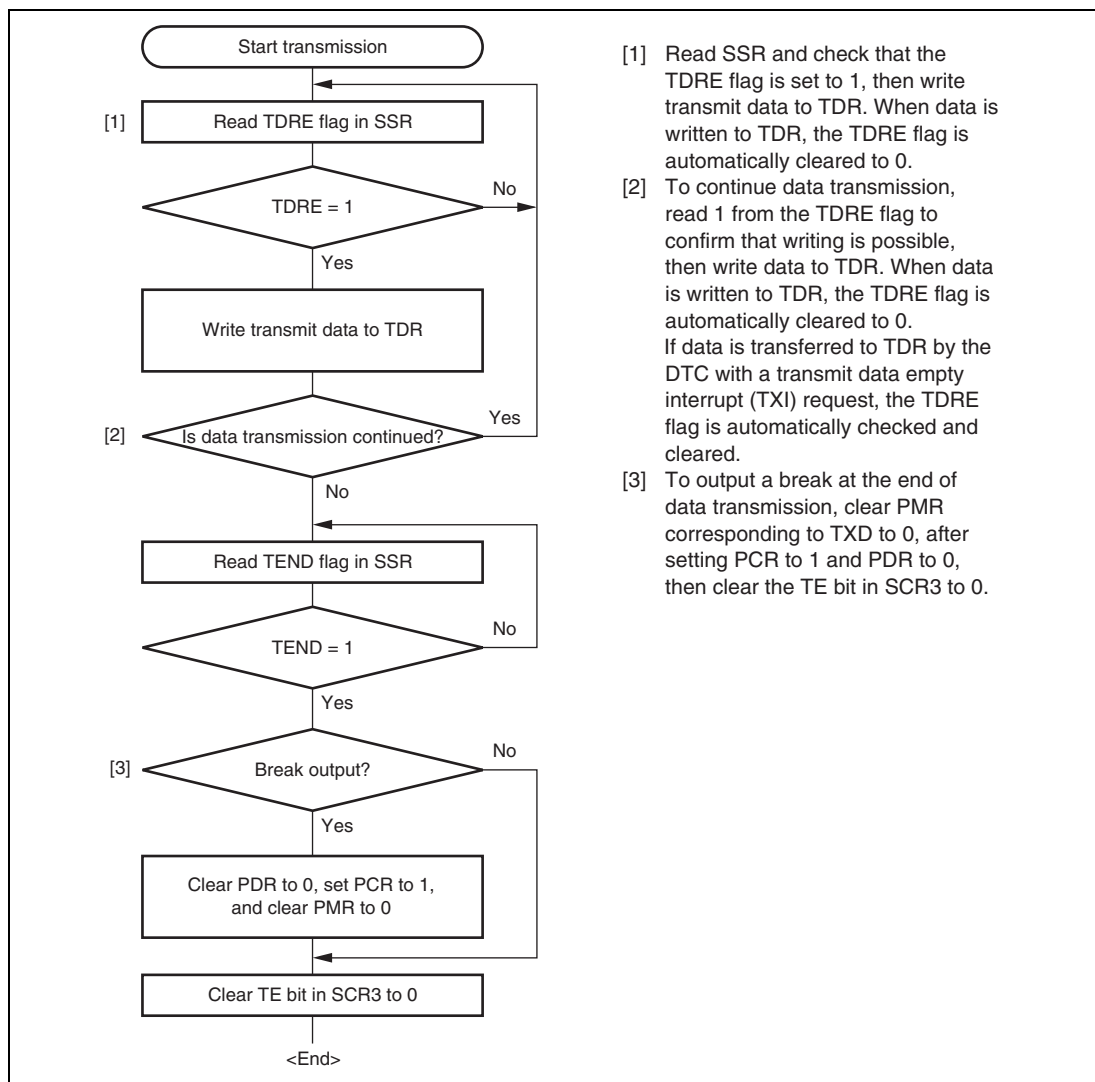

Figure 21.8 Sample Flowchart for Transmitting Data (Asynchronous Mode)
6. Figure 21.8 shows a sample flowchart for transmission in asynchronous mode.